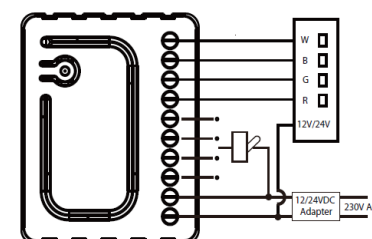
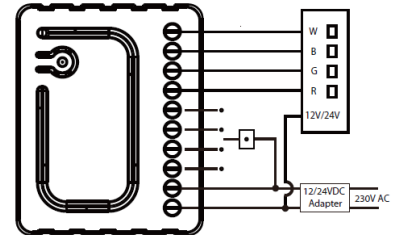

Figure 2. Connecting toggle switch
Figure 3. Connecting push switch
- Connect the R.G.B.W. Color LED Dimmer according to Figure 2., or Figure 3.